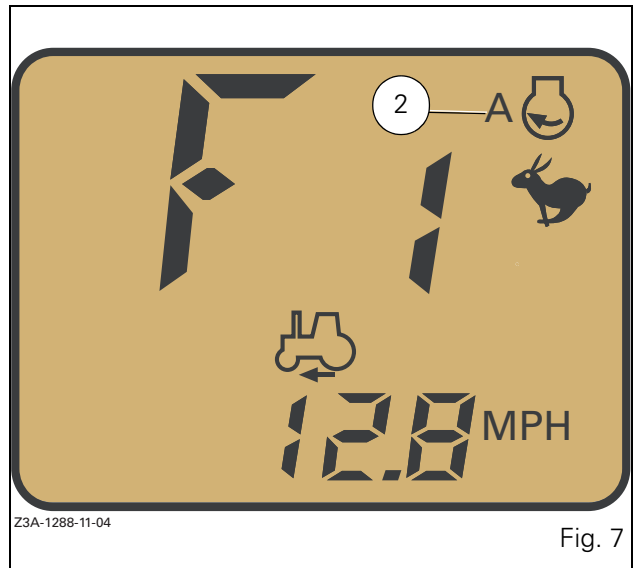

Fig. 7
- The engine symbol appears on the digital display, along with the letter A or B, indicating the active memorised engine speed (e.g.: memorised speed A (2 Fig. 7).